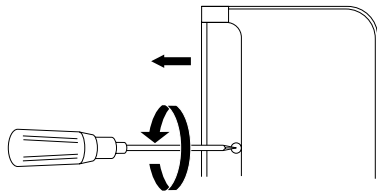

Figure 1
2. Loosen the screw of the large battery compartment cover on the back of the unit, and slide the battery compartment cover in the direction noted by the arrow. (Figure 1)